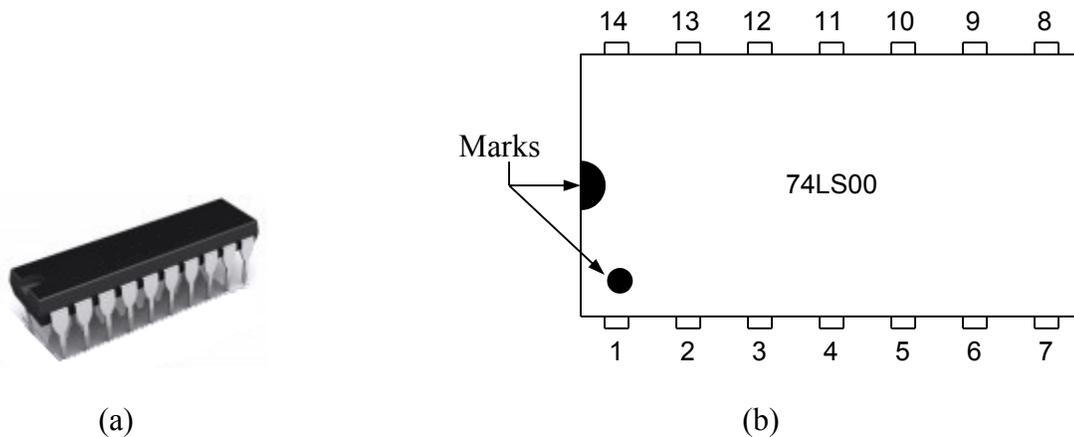

Figure 0.10: Dual-in-line (DIP) integrated circuit (IC) chip: (a) picture; (b) orientation and pin numbering.
An integrated circuit (IC) is a miniaturized electronic circuit manufactured on a thin piece of semiconductor (usually silicon) material. Thousands of tiny transistors (the fundamental building block of all digital circuits) forming large digital circuits are integrated into a single small package known as a chip. Figure 0.10 (a) shows an integrated circuit chip with two rows of ten connection pins. This double row packaging is known as dual-in-line (DIP). Notice the notch at the left end of the picture. This marking is used to show the pin orientation. With the marked end of the IC on the left side, the pins are numbered counterclockwise from the bottom left corner starting with 1 as shown in Figure 0.10 (b).